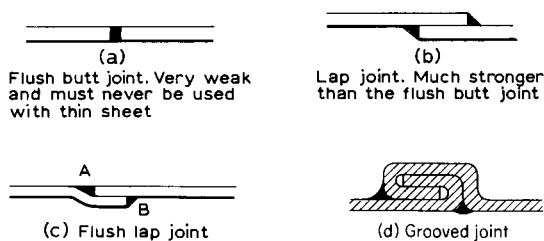

Fig. 4.145 Soldered joints
**Sweating.** When really strong joints are needed they must be sweated. The flush lap joint, Fig. 4.145 (c), can be sweated by applying enough solder at A for it to run under the top sheet and emerge at B. Sufficient heat applied for a long enough time is essential. The joint surfaces must be tinned before sweating and when the heat is applied the tinned surfaces become molten and fuse together. The two surfaces in contact should be pressed together and sufficient time should elapse for the work to cool before it is moved. Any surplus solder can be removed by heating the work and wiping the joint with a cloth which has been dipped in flux.